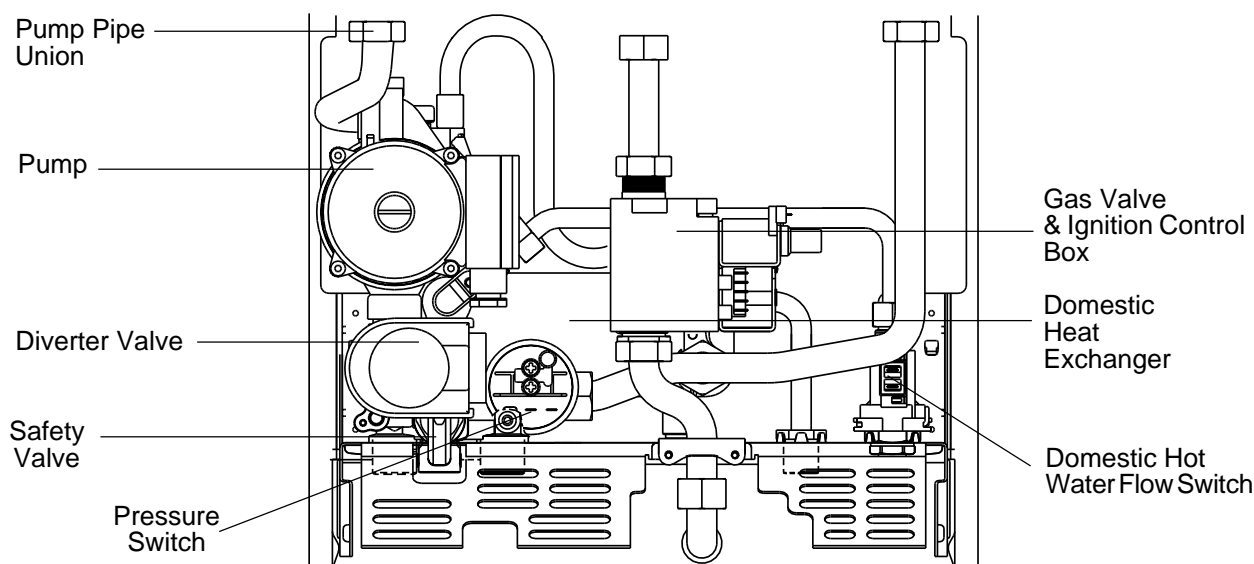

Fig. 34
- 8.14.5 COMPLETE PUMP** Disconnect pipe union connection at front left corner of combustion chamber. See fig. 34
- 8.14.6** Disconnect push fit pipes from pump base by removing securing clips and pulling pipes free from base. See fig. 34
Refer to fig. 34.
Refer to figs. 34 and 35
Part No. 1806 Refer to figs.34 & 35